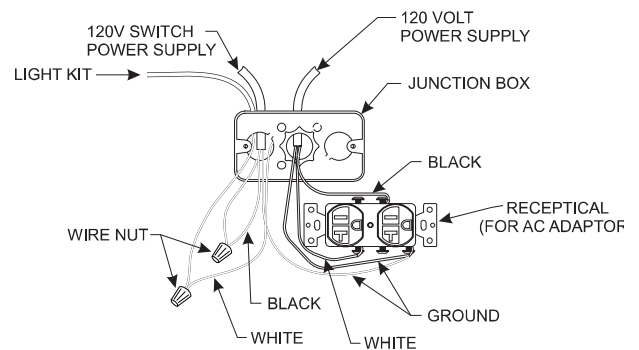

Figure 31
- Run 14/2 Nm-B with ground or 12/2 Nm-B with ground wire through the electrical access panel into the Junction box. Secure wiring with the wire connector as shown. Attach the black wire to the receptacle, and the white wires to the receptacle as shown in Figure 31. Secure the incoming ground wire and green receptacle ground wires under the green ground screw provided in the junction box. **NOTICE:** If an LK5 Accent Light Kit is to be installed, a separate 120V line will be needed to connect the light kit wiring directly to a wall switch. See Figure 31.
- If installing the LK5 Accent Light Kit, then remove the 7/8" diameter knockout in the side of the junction box, install the 7/8" diameter protective grommet, and connect the wiring with wire nuts as shown in Figure 31.